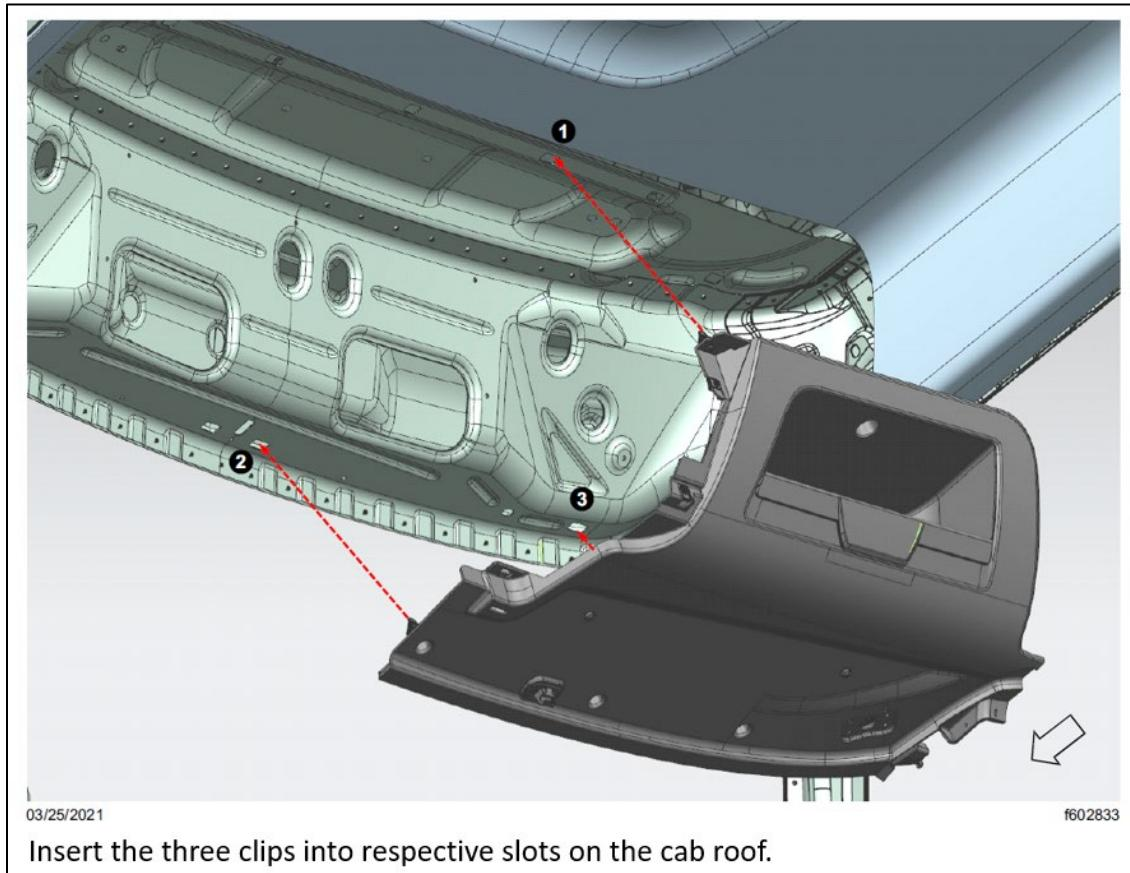

Fig. 23, Place the RH Side Overhead Storage Unit
- 6.1. Insert the clips on the RH side overhead storage cabinet into their respective slots on the cab roof as shown in Fig. 23.